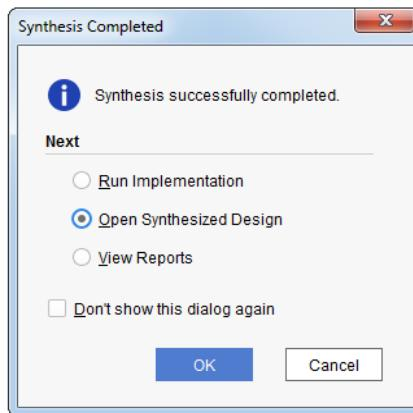

Figure 6.7: Synthesis Completed dialog box
3. After the synthesis is completed, the **Synthesis Completed** dialog box will appear, see Figure 6.7.
4. Select **Open Synthesized Design** and click **OK**, see Figure 6.7.